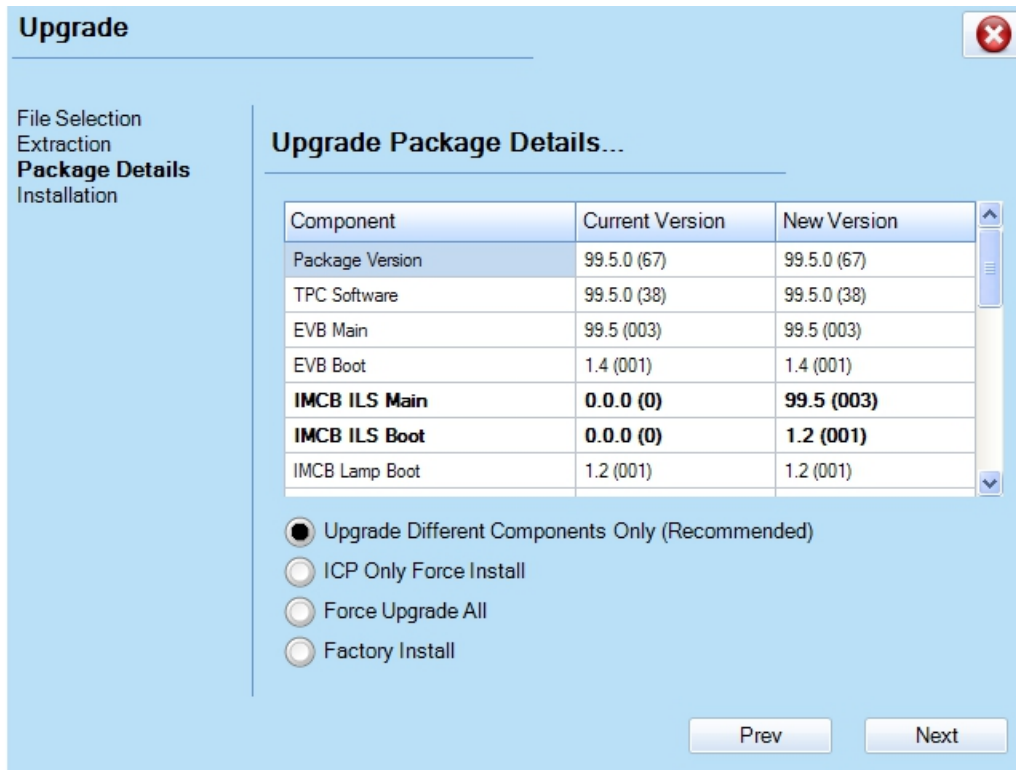

Figure 3-54 Upgrade: Package Details Window
3. The **Package Details** window shows the versions of all components installed in the projector. (Figure 3-54). Select the type of install to perform: **Upgrade Different Components Only**, **Force Upgrade All**, or **Factory Defaults Install** and click the **Next** button to advance to the **Installation** window.